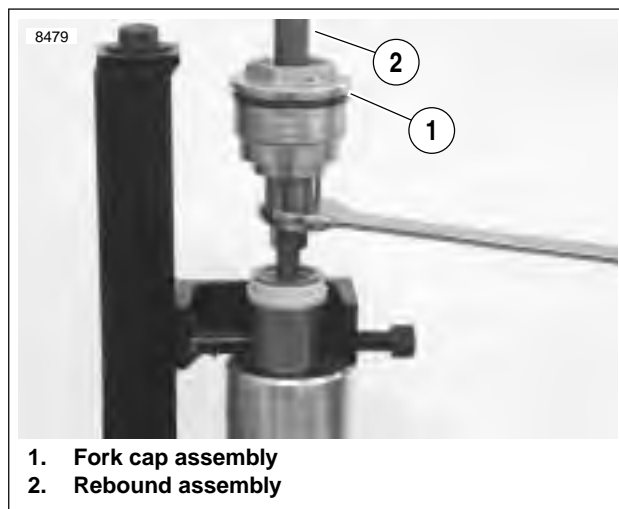

Figure 2-68. Rebound Assembly and Fork Cap Assembly
6. See Figure 2-68. Tighten the damper locknut (10) to 22-30 ft-lbs (30-40 Nm).